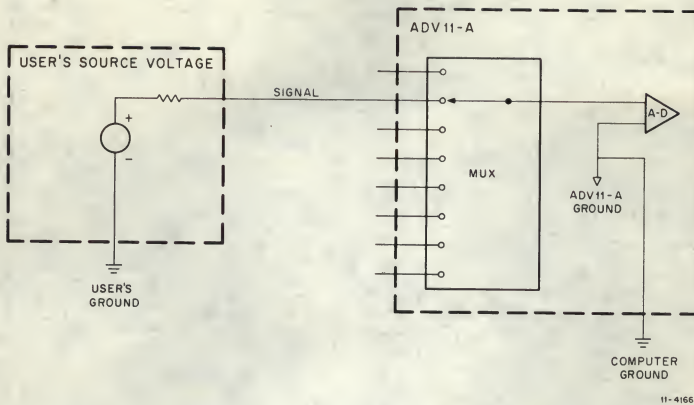

Figure 7 Single-Ended Input Referenced to User's Ground
**Single-Ended Mode** — Single-ended analog input signals for the ADV11-A may be of two types, grounded and floating. A grounded input is one whose level is referenced to the ground of the instrument that is producing it, as illustrated in Figure 7. Since the instrument may be located at a distance from the computer, there may be some voltage difference between the instrument ground and the computer ground. The voltage seen by the ADV11-A will be the sum of the undesired ground difference voltage and the desired instrument signal voltage. In cases where such differences are encountered, they can be minimized by plugging the instrument into an ac outlet as close as possible to that providing power to the computer. Do *not* run a wire from user's ground to the ADV11-A analog ground. Such a wire can cause ground loop currents which affect results not only on the input channel in question, but also on other channels.